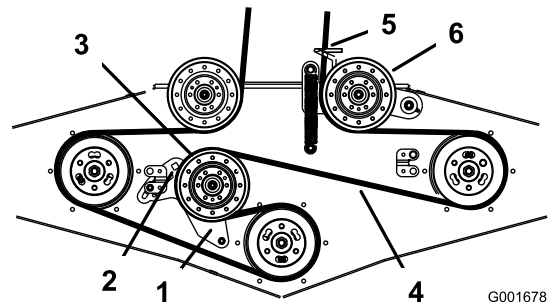

Figure 51
4. Loosen the fixed idler arm and adjust it to relieve the belt tension on the fixed idler pulley (Figure 51).
6. Install the new belt through the belt guide and on the pulleys (Figure 51).